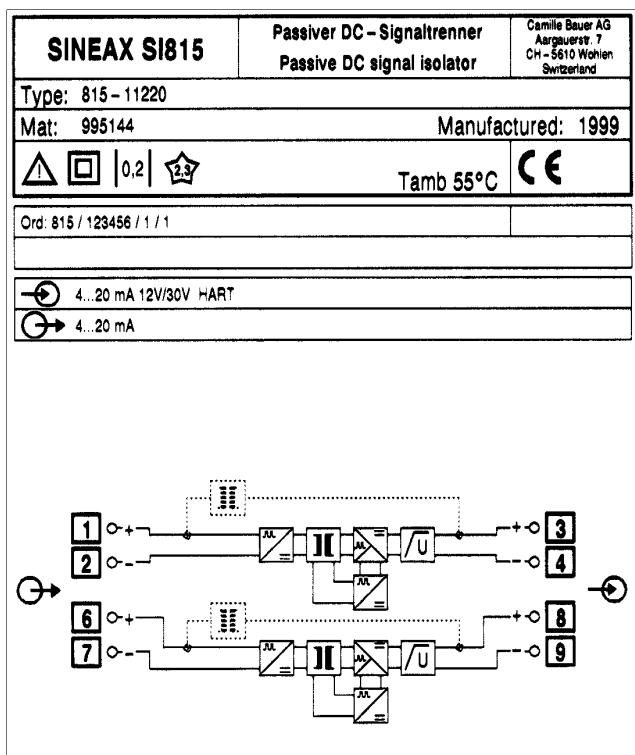

Fig. 8. Example of a nameplate.
- ... the required electrical insulation and transmission data agree with the data on the nameplate of the SINEAX SI 815-1 (input signals and output signals, see Fig. 8)!